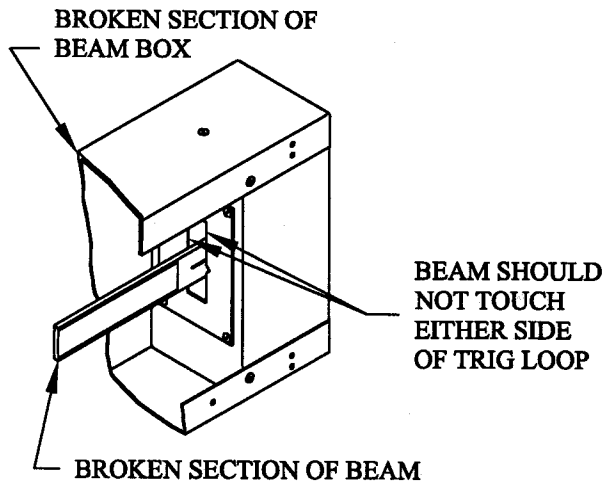
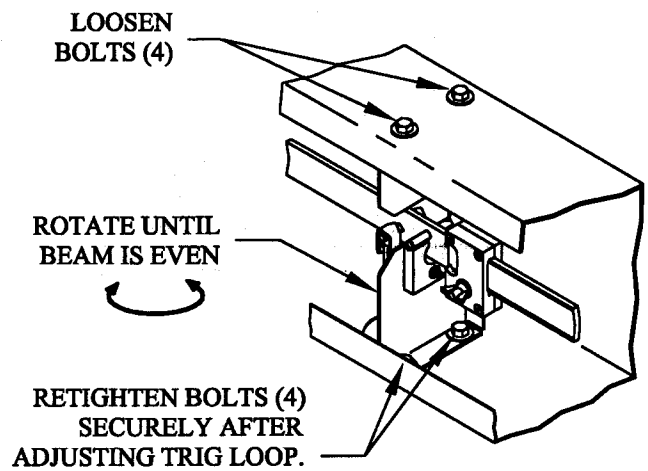

FIG. 19A
FIG. 19B
STEP 19. Check the beam to make certain that it doesn't touch or scrape against the trig loop as it moves up and down. See Fig 19A. To adjust the beam, first loosen the four bolts that hold the bracket that the beam pivots on, then rotate the bracket until the beam is corrected. Retighten the four bolts securely. See Fig. 19B.
- 6) Check to make sure that the beam is not touching the sides of the trig loop. See Fig. 19A & 19B.